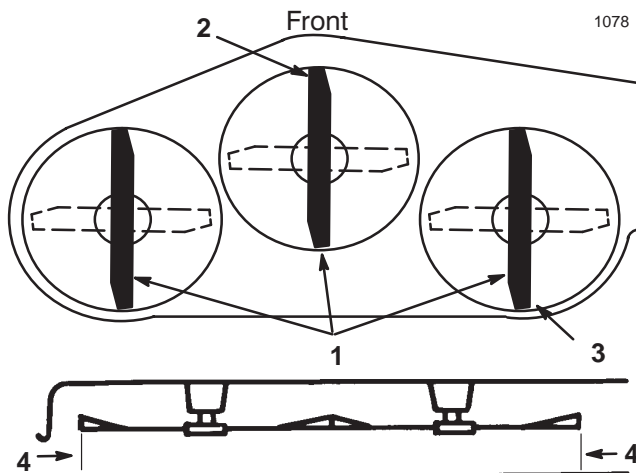

Figure 52
9. Check the front-to-rear slope by measuring between the bottom of the mower (front center and rear center) and the flat surface (Fig. 52).